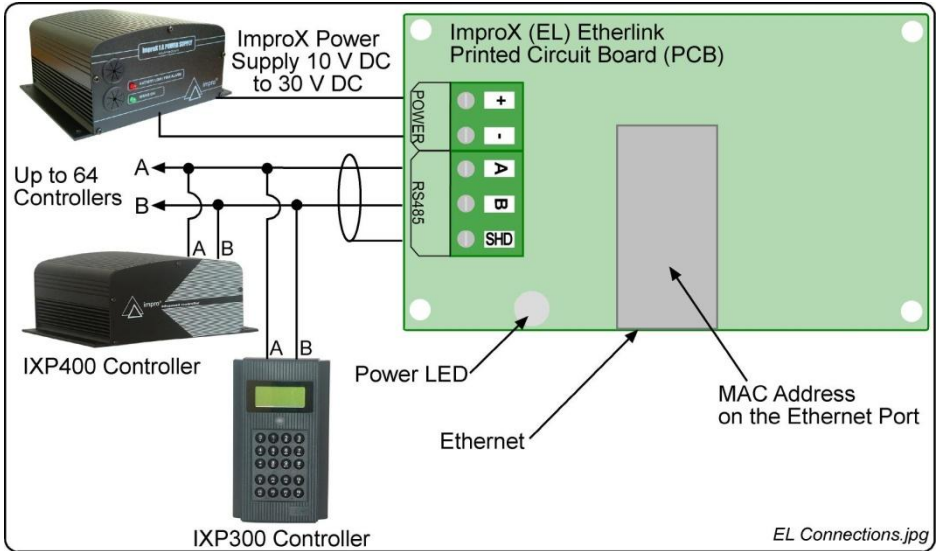

Figure 2: Typical ImproX EL Electrical Connections
Figure 2 shows a detailed connection diagram for the ImproX (EL) Etherlink.